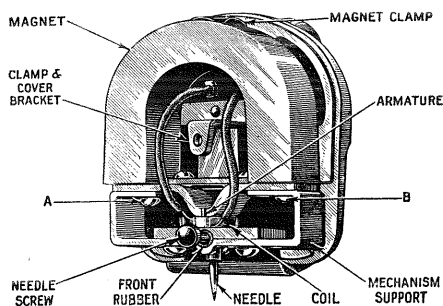

Figure 10—Pickup Nomenclature
In order to replace a defective coil or the hardened pivot rubbers (see Figure 10), it is necessary to proceed as follows:
- (d) Remove screws A and B, Figure 10, and then remove the mechanism assembly from the pole pieces.
- (h) After remagnetizing, it is necessary to correctly center the armature. This may be done quite accurately by feeling its play after the needle is inserted. A little practice will quickly show which way an adjustment is necessary to have the armature centered properly. The adjustment is made by loosening screws A and B (Figure 10), and sliding the mechanism slightly in relation to the pole pieces.